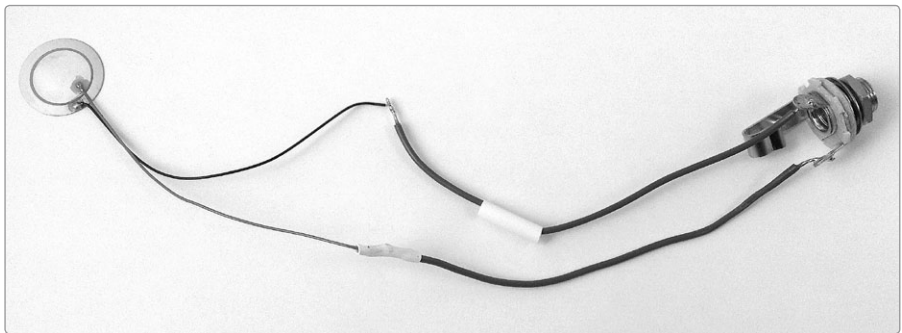

FIGURE 1-8: *Our pickup. Note that only one piece of shrink tube is in place over its soldered joint.*
Step 7 Strip another 1/4 inch of insulation off each lead on the piezo element and then solder one lead to each of the wires you connected to the jack in Step 6. Because this piezo element isn't polarized, it doesn't matter which lead goes to which lug (although technically the black lead is the ground and should go to the sleeve lug on the jack—phone jack anatomy is covered in “Quarter-Inch Phone Plugs and Jacks” on page 337). After the solder joints cool, slide the shrink tube up over the joint and snug it down to size by running the barrel of your soldering iron over it a few times, as described in the soldering primer. See the results in Figure 1-8.